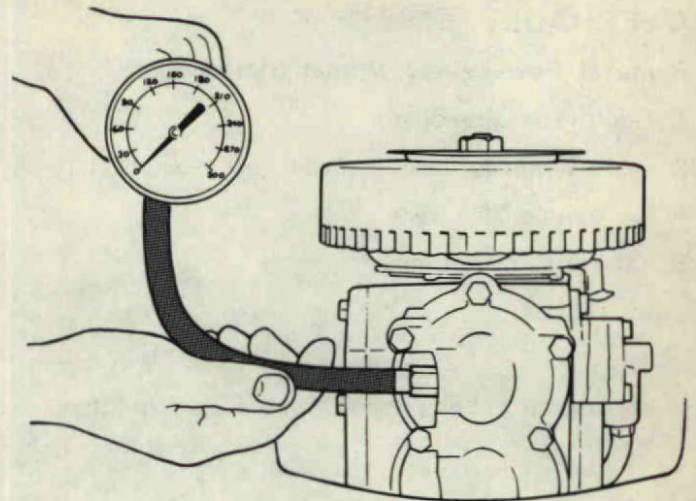

Figure 3. Compression Gauge Installed.
2. Insert the tip of the compression tester into the spark plug hole of the cylinder being tested. Set throttle to wide open position. Figure 3.